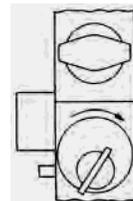

Figure 3-5
- To allow access again through a combination code, insert key, turn clockwise approximately 45°. Return the key to the pull position and remove (**See Figure 3-5**).